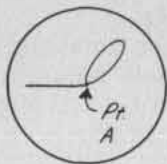

FIGURE 9. Typical in-circuit waveform for a good transistor
a complete schematic, there is a switch for "In-Circuit" and "Out-Of-Circuit" operation. When performing In-Circuit tests there are usually resistors and capacitors associated with the transistor under test. The result is often a waveform such as is shown in Figure 9.
The loop in Figure 9 shows there is associated capacitance (probably a coupling capacitor) and the fact that the waveform is not a perfect "right" angle is because of the associated resistance (probably bias or load resistors).
A little experimenting with a printed circuit board containing many transistors will rapidly show you the various waveforms you will encounter for good transistors. The important thing to look for is whether or not the waveform has a "break" in it (Pt A in Figure 9). If it does, the transistor diode is good. Remember, the lower the bias resistors, the less defined the "break" (Pt A Figure 9) and the more the waveform appears like a "short". Of course, when testing out-of-circuit the "break" will be very sharp — just like a true diode.
*Of prime importance in any transistor check of this type is its behavior when actually testing transistors. When doing in-circuit testing (see article this issue), note there is tilt produced by in-circuit resistors and "looping" produced by in-circuit capacitors — see Figure 9. These characteristics are probably secondary to whether or not the diode has the telltale diode "knee" — again, see Figure 9. If it does, then the diode is good; if not, then it is shorted or open.*